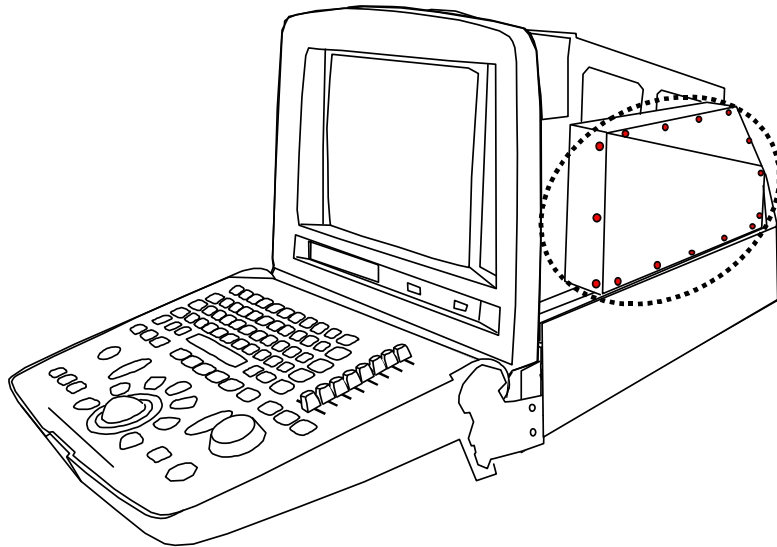

Fig. 6. 1-9. Screw holding the metal shield box covering the Single module
2. Disconnect the connector to the Mother board, and the connector to the transducer connector see Fig. 6. 1-10.